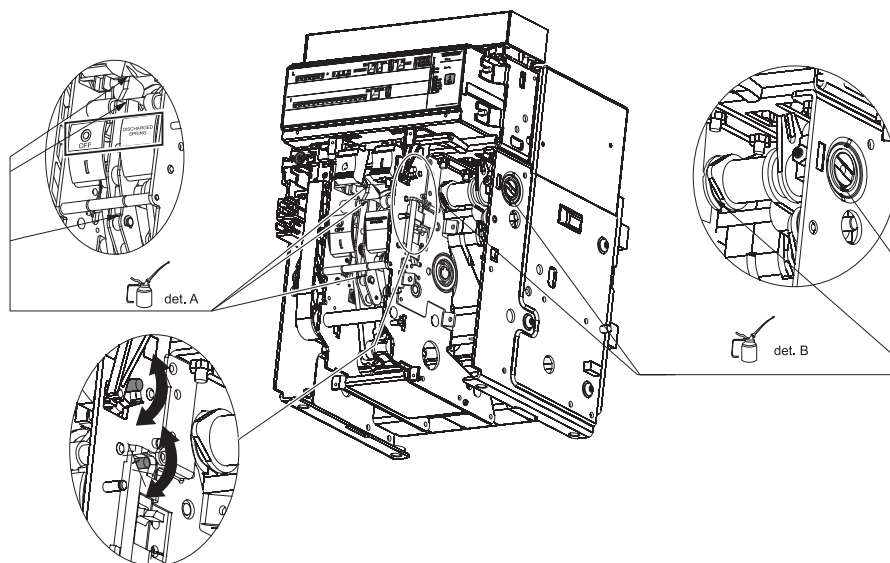

Fig. 43
- Cleaning (for excessive deposits, a laminated dilutant such as Henkel 273471 or the equivalent can be used) and lubricate, at the points indicated in fig. 43, part A, as for First Level, the opening and closing shafts and hooks with MOBILGREASE 28 (EXXON MOBIL).
- Cleaning (for excessive deposits, a laminated dilutant such as Henkel 273471 or the equivalent can be used) and lubricate with MOBILGREASE 28 (EXXON MOBIL) the supports of the operating shaft, including those on the sides of the switch (see fig. 43 part B).